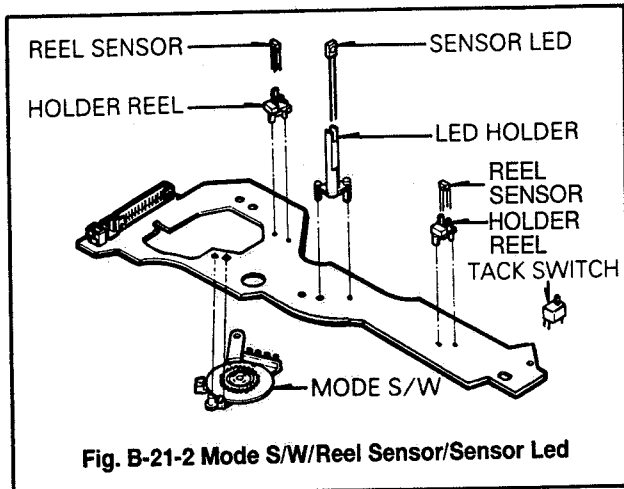

Fig. B-21-2 Mode S/W/Reel Sensor/Sensor Led
- 2) Remove two screws(A), (B) and then remove the Junction P.C.B Assembly.
- 4) Remove the Reel Sensor, Sensor LEDS and each holder from the Junction P.C.B(Fig. B-21-2).